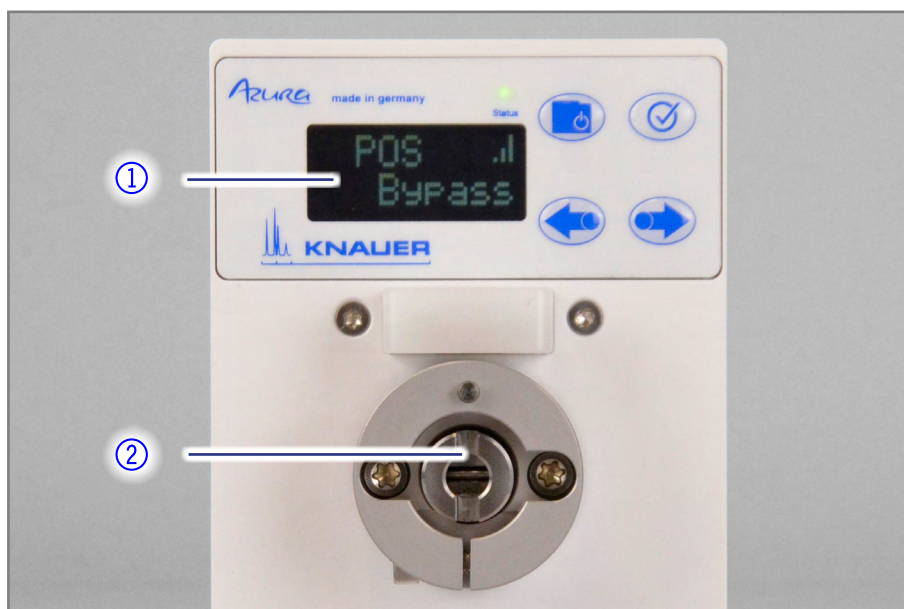

Fig.6 Valve drive with mounted VICI valve adapter after correct initialization
4. Switch on the valve drive and wait until the RFID tag is recognized correctly. After a short initialization "Bypass" is shown on the display ① and the coupling ② turns so that the slit of the coupling is in vertical position (Fig. 6).